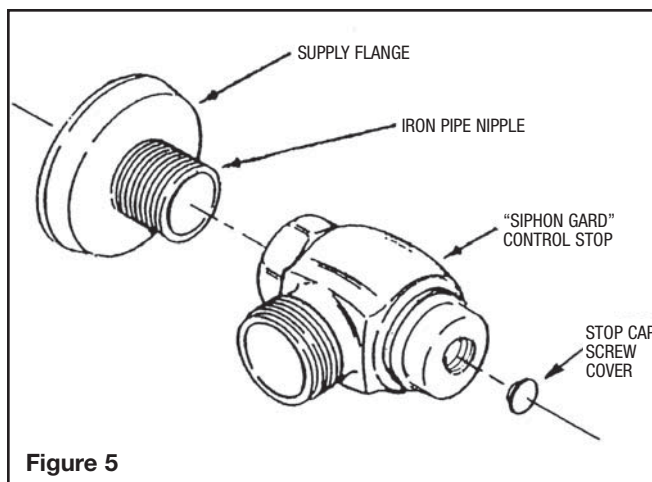

Figure 5
STEP 3 – Control Stop Installation (Figure 5)
STEP 10 – Adjust Control Stop (Figures 5 and 11)